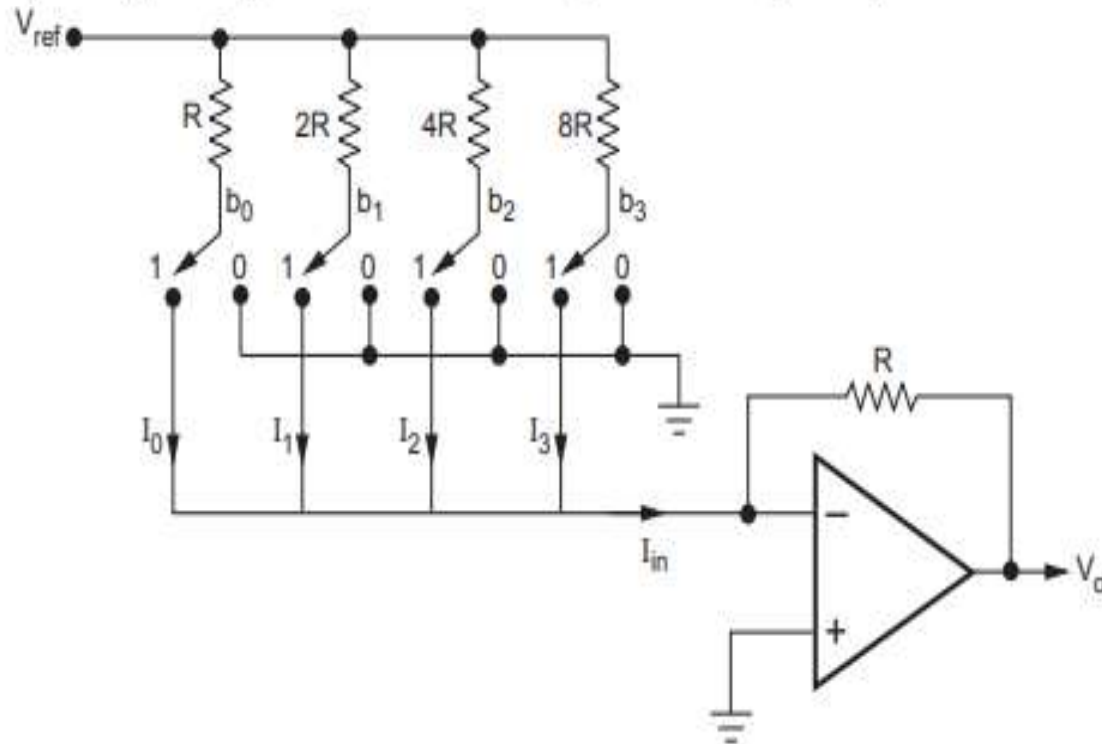

Fig. 3.8.2 4 Bit weighted resistor D/A converter
- Fig. 3.8.2 shows a 4-bit weighted-resistor D/A converter which includes a reference voltage source, a set of four electronically controlled switches, a set of four binary-weighted precision resistors, and an op amp.